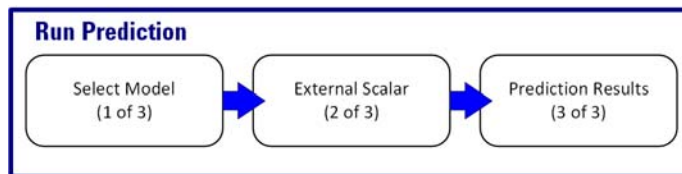

Figure 174 Flow chart of the Run Prediction wizard
The **Run Prediction** wizard has three (3) steps. A flow chart of classifying new sample using Run Prediction is shown in Figure 174.